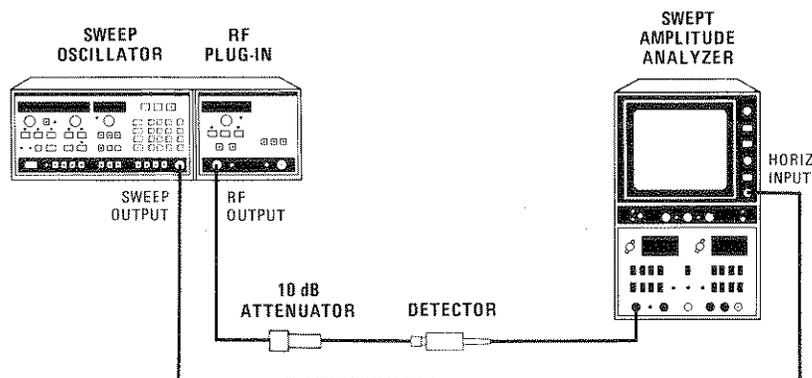

Figure 5-31. Internal Leveling Adjustment Test Setup
1. Connect the equipment as shown in Figure 5-31 with the 8755C Swept Amplitude Analyzer monitoring the RF OUTPUT through the 10 dB Attenuator. On the 8350A, press INSTR PRESET \square MOD \square . Allow the equipment to warm up for one hour.